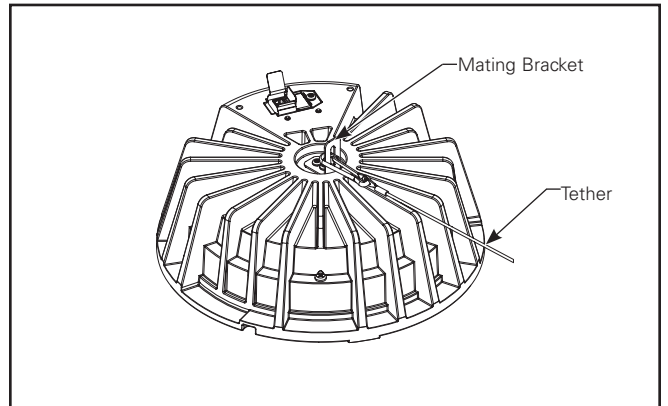

Figure 10.
6. For HCC8 cylinders attach tether to module using bracket provided and the spring clip on end of the tether (Figure 10).